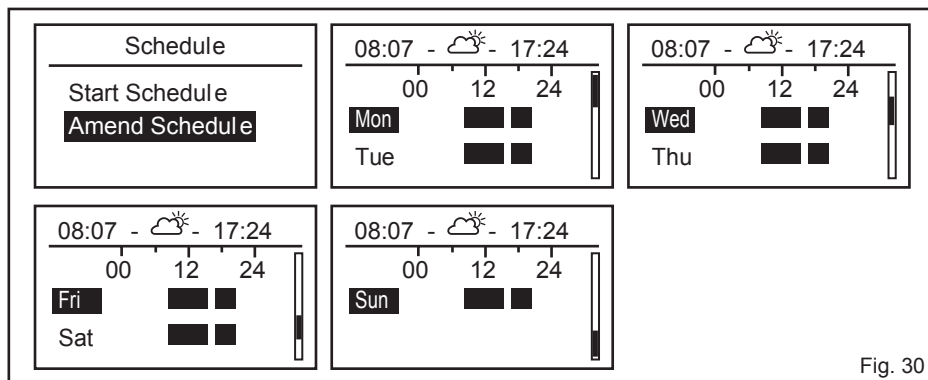

Fig. 30
- Turn the Dial to select Amend Schedule, and then press the Dial to enter the schedule overview page (Fig. 30).
- Turn the dial to toggle through the daily schedules (Fig. 30).